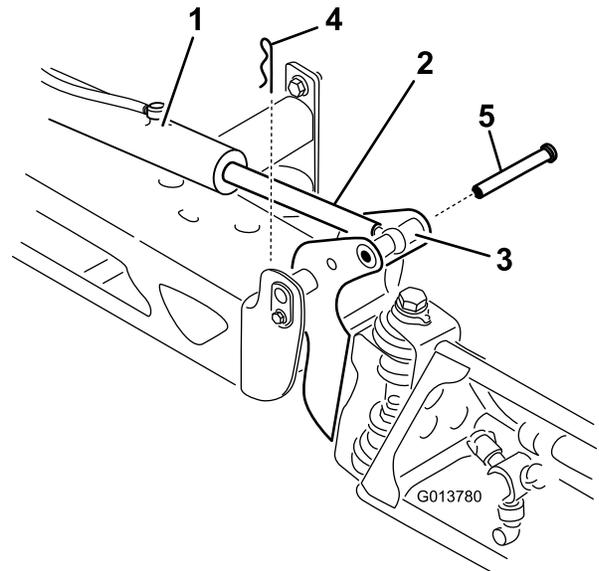

Figure 64
2. Remove the cotter pin from the pivot pin (Figure 64).
3. Lift up on the boom and remove the pin (Figure 64), and slowly lower the boom to the ground.
- While holding the boom, insert the pin through both boom pivot and actuator rod (Figure 64).